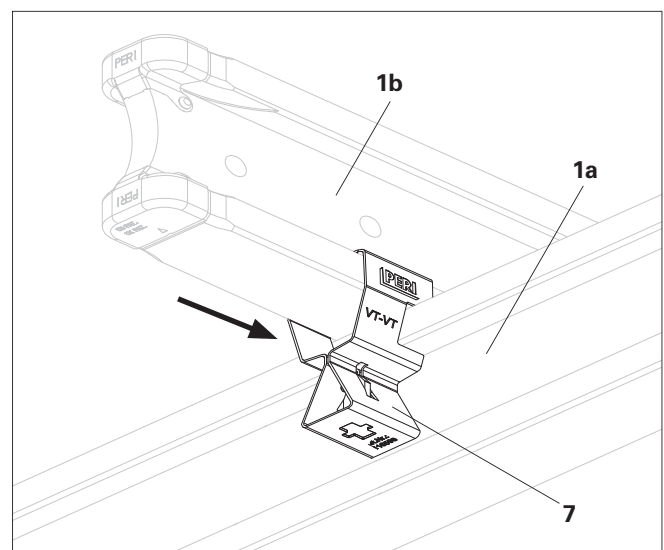

Fig. A4.08
1. From the end of the girder, push the Flexclip (7) onto the cross beam (1b) (bottom chord) by hand until it rests against the joint.
2. The cross beam is now secure. (Fig. A4.08)